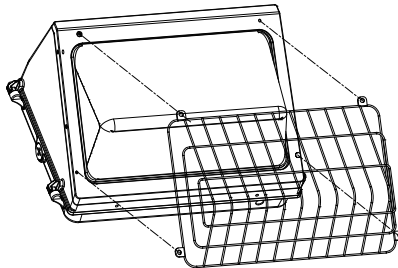

figure 7
2. Put the wireguard on the housing and match the 4 holes on the housing. (figure 7)